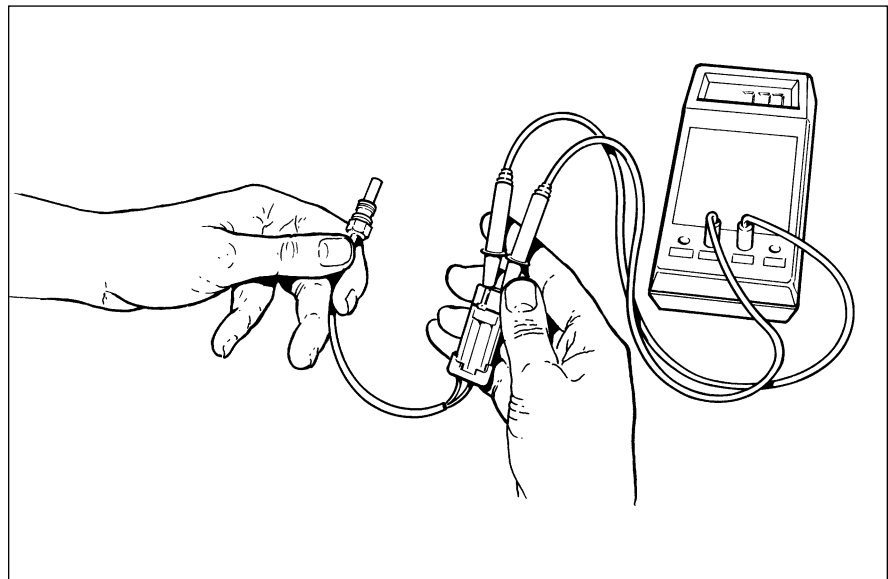

Figure 5-4 Temperature Sensor Test
- a) Connect a multimeter adjusted to measure resistance to the temperature sensor as per *Figure 5-4*. The polarity of the sensor connections to the multimeter is not important.